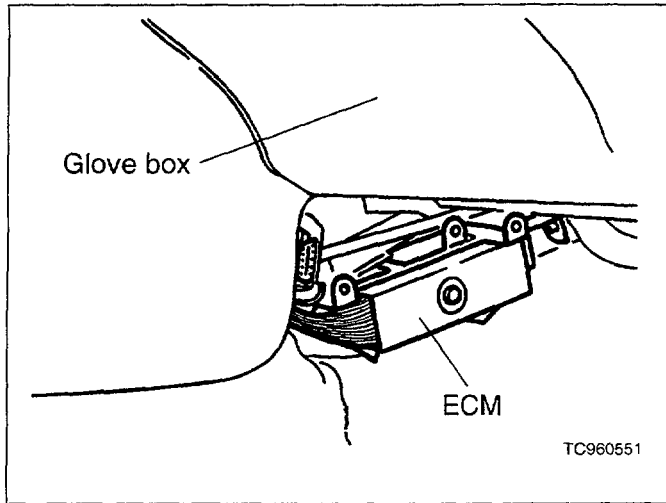

Figure 1
3. If the customer is using premium unleaded gasoline and the EGR system is operating normally, replace the ECM (see Figure 1) with the appropriate countermeasure part listed in the Parts Information table on page 2.